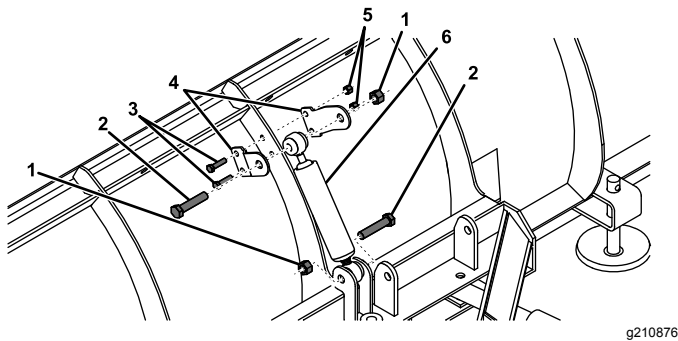

Figure 6
4. If you have a super-duty plow, secure the end of the shock absorber to the push-frame assembly using a bolt (5/8 x 3 inch) and locknut as shown in Figure 6.
5. Attach the blade shock-mount to the top of the shock absorber using a bolt (5/8 inch) and locknut as shown in Figure 6.
6. Slot the blade shock-mount onto the center rib of the plow and secure it using 2 bolts (3/8 x 1-1/2 inches) and locknuts (Figure 6).
7. Extend the shock absorber so that 6 mm (1/4 inch) of the rod is visible (Figure 6).